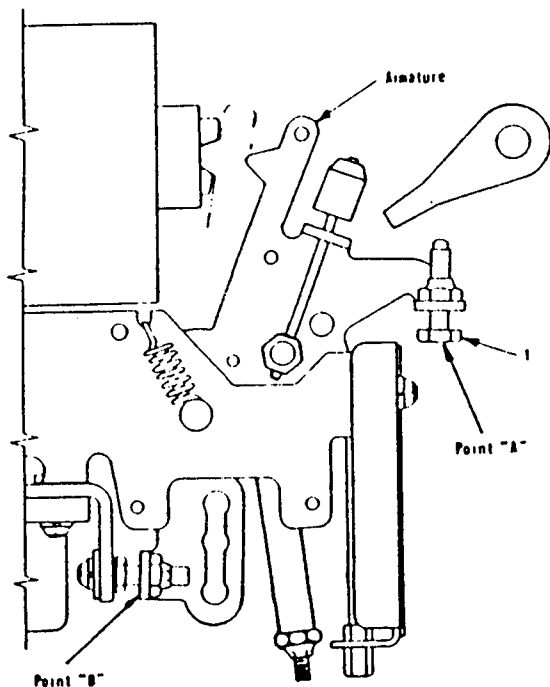

Fig. 18 — Armature Trip Travel Adjustment
1. (See Fig. 18). Back out on the two trip adjusting screws (1) until the screws are engaging the nut by approximately two turns.
3. Using a one-foot long (approximate) stick, push up on the long-time armature, thick armature, at point "A", and hold it tight against the magnet. (When pushing, allow time for the oil dashpot to displace the oil.) While holding the armature in this position by pushing at point "B", turn up on screw (1) until the circuit breaker just trips. Continue to turn the screw an additional one turn. **NOTE:** During this adjustment operation, hold the armature firmly against the magnet, but do not exert excessive force that will result in incorrect adjustment due to distortion.
4. Charge springs and close circuit breaker. Push up on the thin armature and adjust screw (1) using the same procedure as in step 3 above.